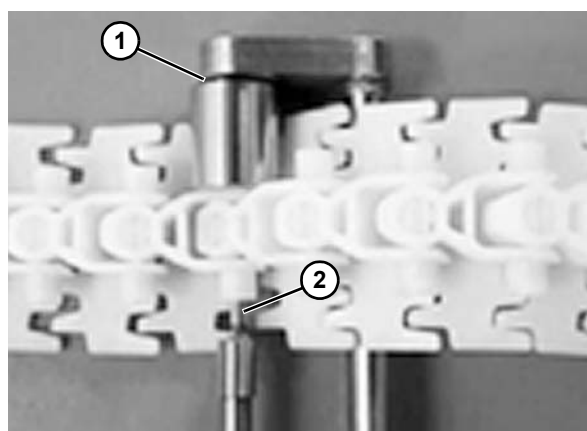

Figure 50
3. Line the FlexMove chain tool (**Figure 50, item 1**) up with the pin (**Figure 50, item 2**). Slowly depress the trigger until the pin seats. A slight detent will be felt when pin is seated.